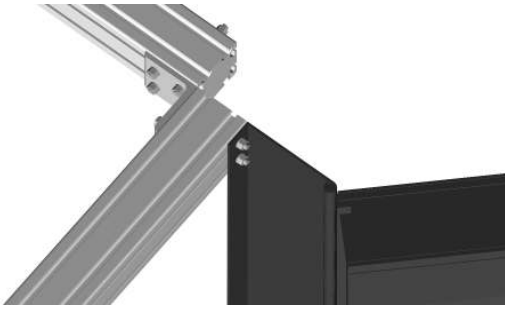

Figure 5-A
- Align the outside of the hinge with the end of the top and bottom rails (see Figure 5-A). Tighten the nuts with a wrench or ratchet.